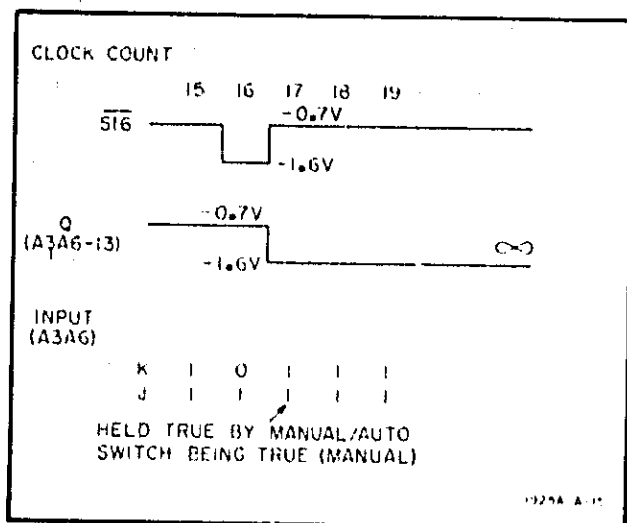
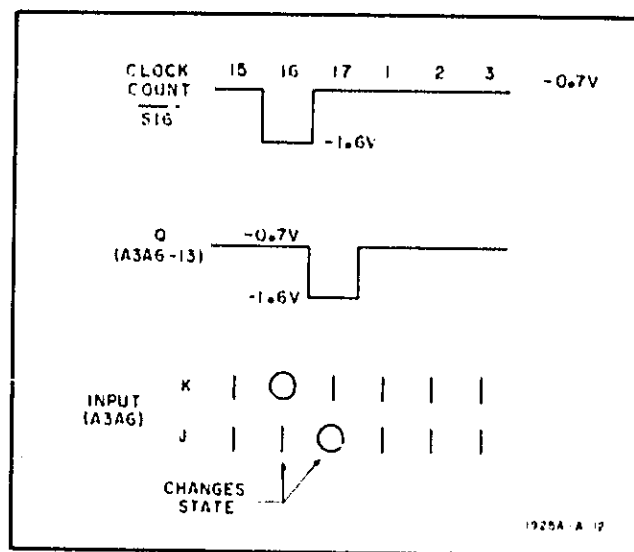

Figure 4-2. Word Control Manual Recycle Mode
Figure 4-3. Word Control Auto Recycle Mode
a. When the MANUAL/AUTO switch on the front panel is in the MANUAL position, logic 1 is applied continuously to J input (pin 5) of A3A6. This prevents the flip-flop from setting automatically (Figure 4-2). When the instrument is operated in the AUTO mode of operation, logic 0 is applied to J input (pin 5) of A3A6. With logic 0 now applied to all the J inputs, the flip-flop will be set automatically by the clock (Figure 4-3).